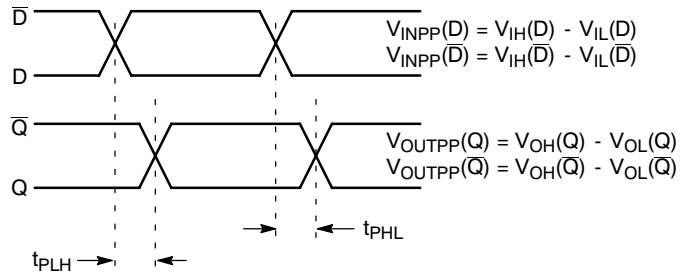

Figure 9. AC Reference Measurement
25. See Figure 9 $t_{skew} = |t_{PLH} - t_{PHL}|$ for a nominal 50% differential clock input waveform. Skew is measured between outputs under identical transitions and conditions @ 1 GHz.